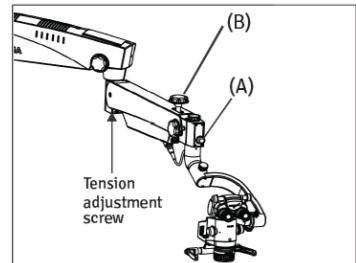

Fig. 49
3. Lock the up & Down movement of suspension arm using locking knob (B) in Fig.49 after focusing of the area of interest.
7. The illumination is controlled through the control knob (A), Fig.49. Rotate it clockwise or anticlockwise to achieve desired illumination level.